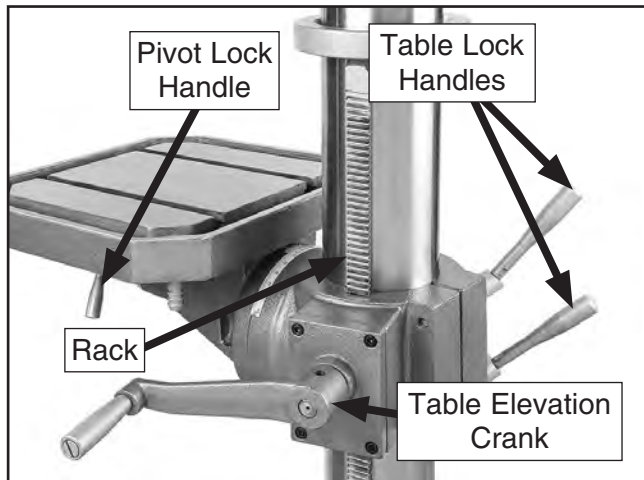

Figure 26. Table adjustment controls.
2. Loosen pivot lock handle shown in **Figure 26**.
2. Loosen table lock handles shown in **Figure 26**.
3. Adjust table height by rotating table elevation crank (see **Figure 26**), then re-tighten table lock handles.
2. Slightly loosen table lock handles (see **Figure 26**).
3. Pivot table to desired location, making sure to guide rack, as shown in **Figure 26**.